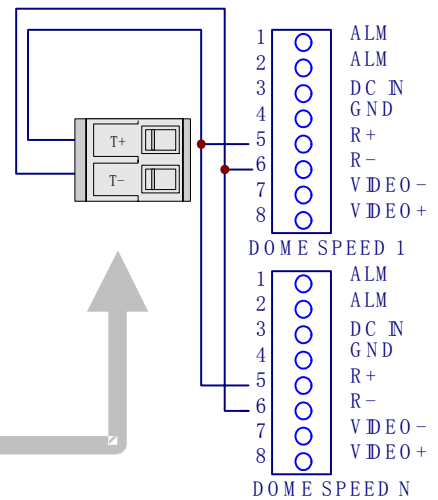

Figure5
2. Connections between the keyboard and the speed dome camera(Figure5)